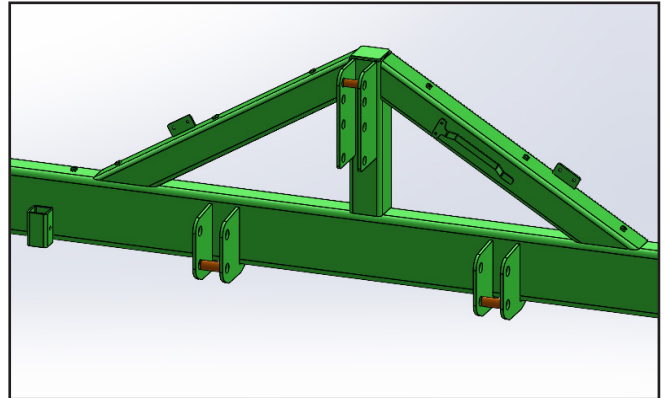

Fig. 9 Cat 2 12'+
4. Be sure to match the machine and tractor hitches before attaching to the tractor and moving the machine. See Figures 9 - 21.
See Section 3.5 Figures 9 - 21